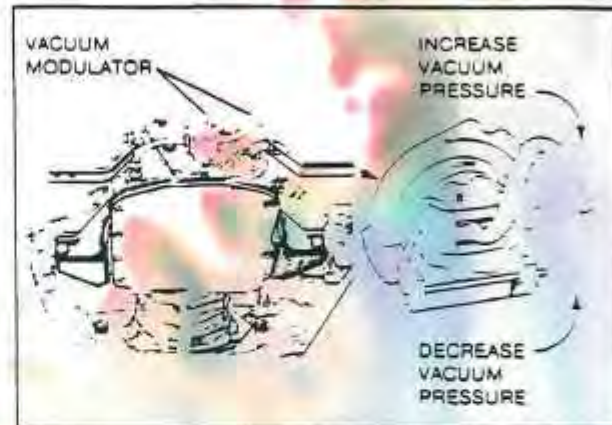

Fig. 14 ADJUSTING TRANSMISSION FLUID PRESSURE
7. Adjust the fluid pressure by unlocking the retaining clip and rotating the vacuum modulator in its housing. Fig. 14